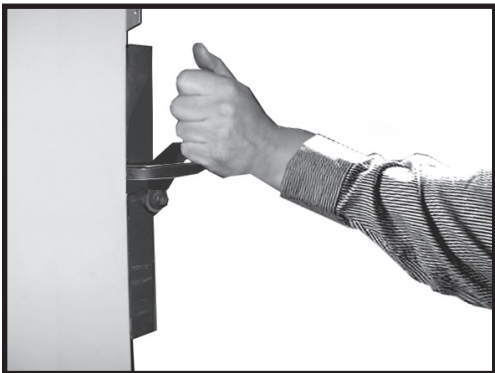

Figure 8
1) OPEN FLUE GATE BY PUSHING DRAFT CONTROL LEVER AS FAR TO THE REAR AS IT WILL GO (Fig.8).